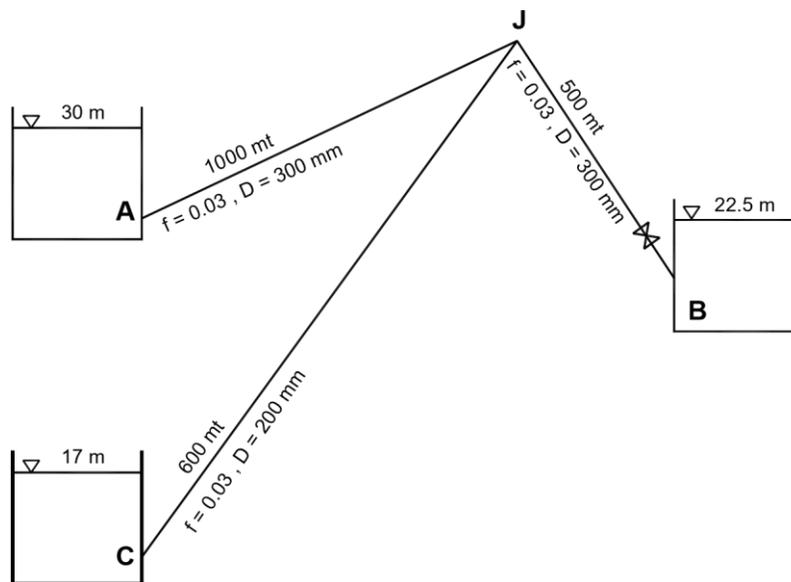

Fig.11
- a- In Fig.11 pipeline 'AJB' connects two tanks 'A' and 'B'. If the elevation of water in tanks 'A' and 'B' are 30mt. and 22.5 mt., respectively and the elevation of the junction point 'J' is 35 mt., prove that the flow from 'A' to 'B' will be interrupted and stopped. Take  $h_{vap} = -8$  mt. and  $g = 10$  m/sec2.